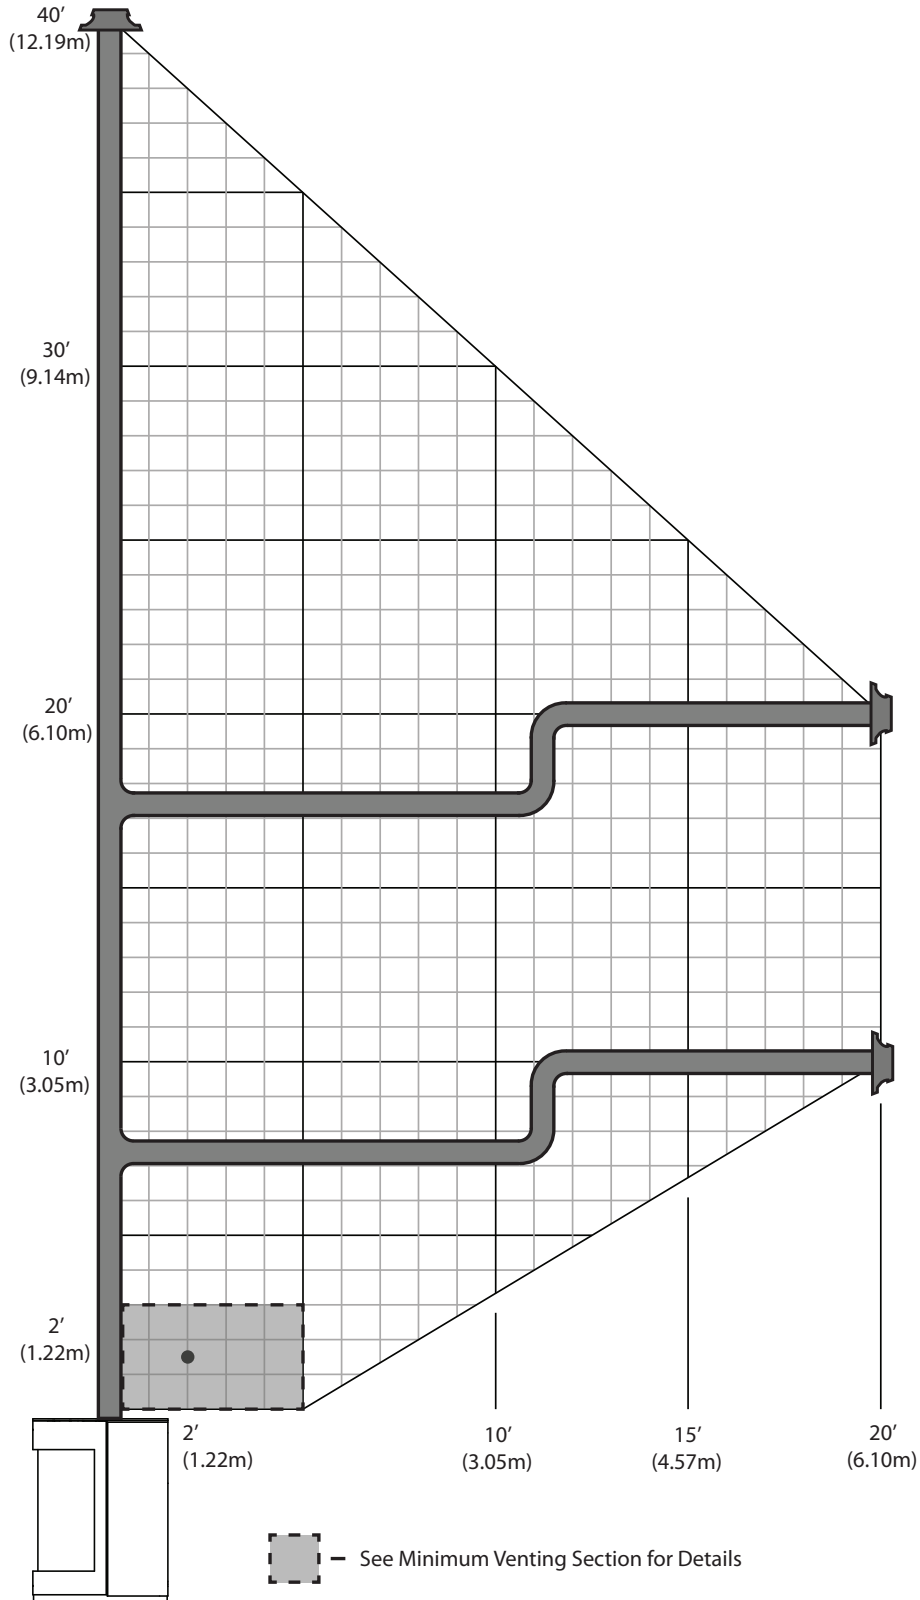

Figure 54: Top Vent Configuration Diagram - LP
The following charts show the range of venting options available for top vent configurations using either vertical or horizontal terminations in conjunction with 0 - 3 90° elbows in the vertical plane. Having the fewest number of elbows is ideal as they restrict air flow. The total length of horizontal vent pipe can not exceed 20ft (6.1m) and the total vertical length can not exceed 40ft (12.2m). Any combination of rise and run can be used as long as it lays within the shaded areas of the following charts. A total of three (3) 90° elbows or six (6) 45° elbows can be used as shown in Figure 53 & Figure 54. In addition to what is shown, if a 90° elbow is used in the horizontal plane, 3 ft (91.4cm) must be subtracted from the allowable horizontal run (for each 45° elbow, 1.5ft (45.7cm) must be subtracted).